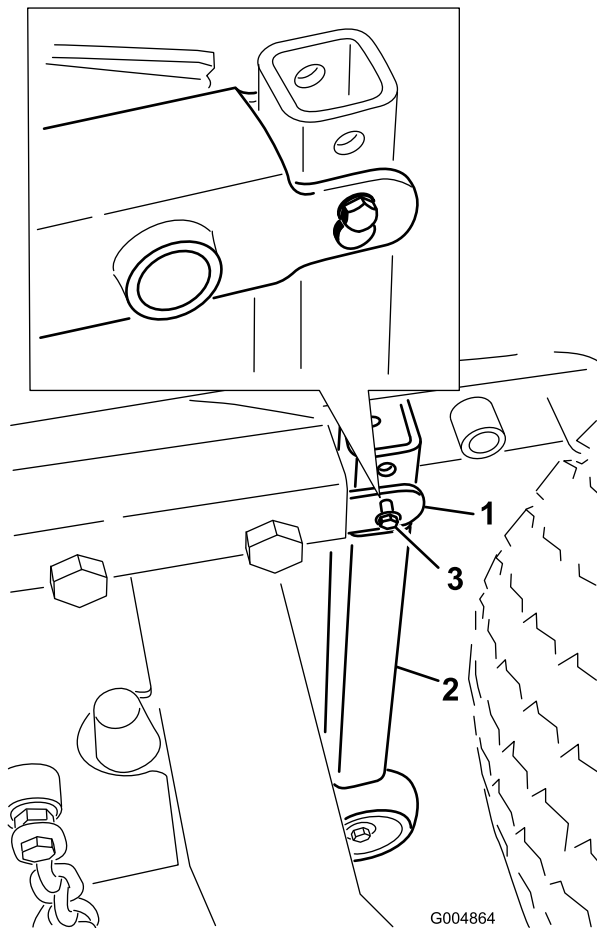

Figure 26
5. Remove the clevis pins and a 5/16" self-tapping screw pin retainers securing the vertical tube support assemblies to the rear of the deck frame (Figure 26).